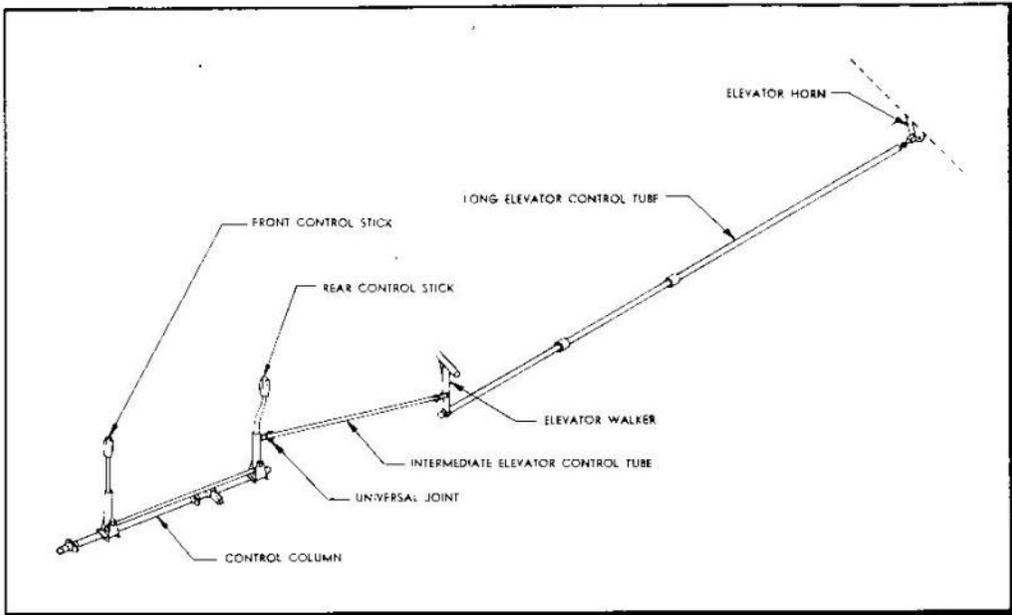

Figure 18 - Elevator Controls Diagram
b. When the stick is moved forward or backward, the elevator is moved by a long push-pull tube. (See figure 18.)